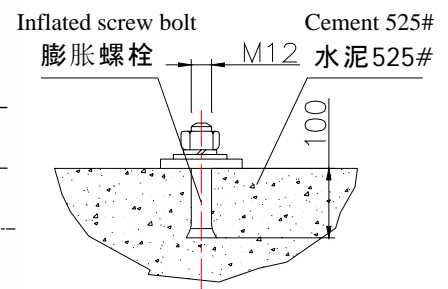

Fig. 9
- 4) Drill the holes after determining the hole positions and bury before hand (N+1)X 4 pieces of M12 ground bolts or inflated screw bolts (as shown in Fig. 9, N indicating number of passage);